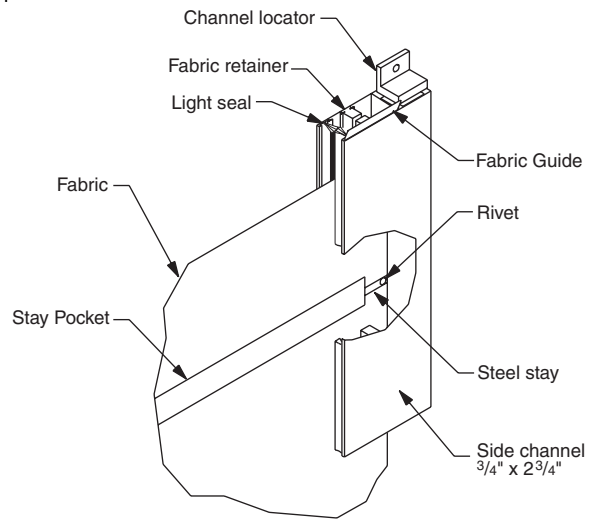

Figure 9
⑨ Check shade fabric. With fabric and slat all the way up, pull the slat bar forward, out of the head box and in front of the side channels. Activate the operator (crank, spring roller, bead clutch, or electric) to completely lower the shade fabric. Repeat several times. With the shade fabric hanging in front of the side channels, check fabric hang. The shade fabric should be hanging straight and equally spaced between the outside edges of the side channels. If the fabric is not hanging properly, adjust the head box by raising or lowering one end of the head box to bring fabric into proper alignment. Operate the shade again to re-check fabric position. If functioning properly, run the shade up to fully open position and re-insert slat bar and fabric into side channels (see Fig. 9). If misalignment still occurs, correct by sticking a small (approximately 2") piece of cloth tape directly to the roller to affect the direction the fabric runs. Fabric running off to the left may be corrected by placing the tape on the right end of the roller beneath the fabric. This, in effect, makes that end of the roller larger, causing it to take up more fabric. If this is a non-electric operated shade, proceed to step 12.